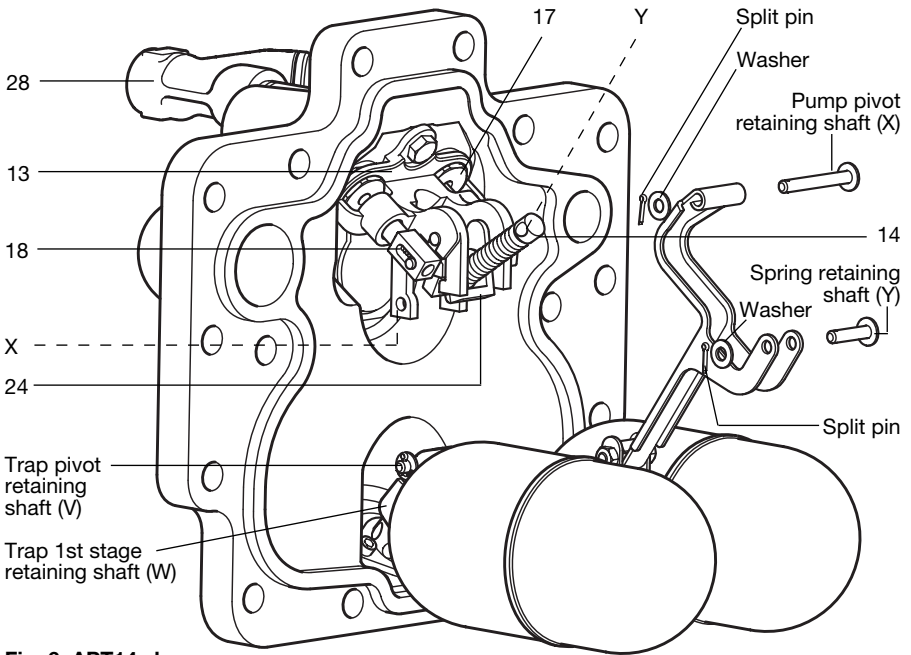
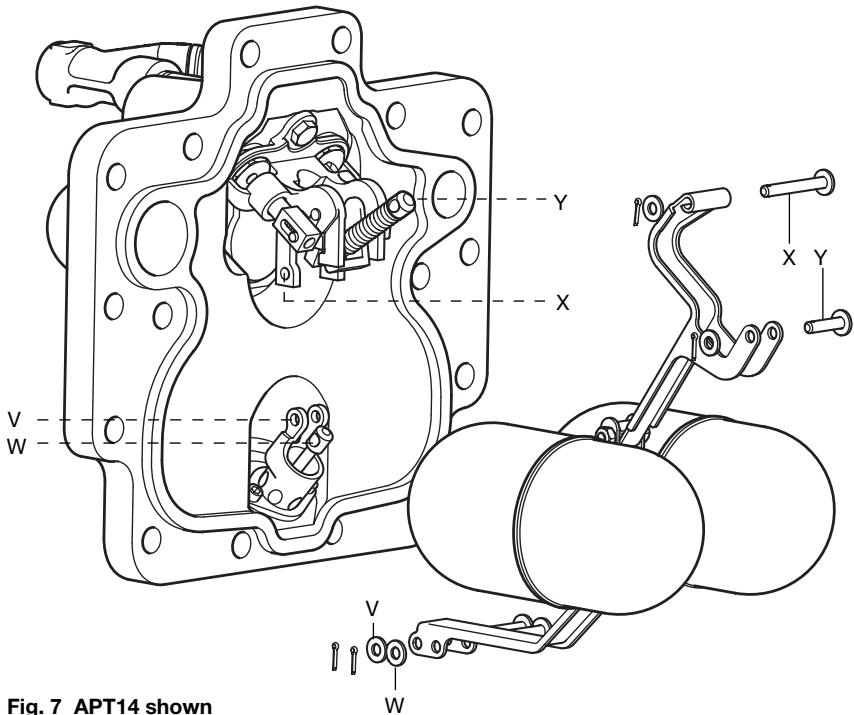

Fig. 6 APT14 shown
Fig. 7 APT14 shown
3. Remove a split pin and washer from one side of the spring retaining shaft (Y) (See Figure 6).
4. Remove a split pin and washer from one side of pump pivot retaining shaft (X).
5. Carefully slide the shafts out from their respective positions observing the orientation of the spring and actuator arm (item 14, 24) within the pump bracket (item 13) as these will need to be refitted later.
6. Remove a split pin and washer from one side of the trap 1st stage valve retaining shaft (W).
7. Remove a split pin and washer from one side of the trap pivot retaining shaft (V).
10. It is easier to fit the replacement shafts in the following sequence:- (See Figure 7).
- Y. Spring retainer** shaft length 30 mm for both APT14, APT14HC and APT14SHCleaving the spring retaining shaft until after the spring and actuator arm have been correctly aligned and located within the slot of the pump bracket (item 13).
14. Carefully reconnect the motive steam supply and the exhaust lines to the connections marked (S) and (E). The APT14, APT14HC or APT14SHC is now ready to recommission.
15. Make sure that the Spirax Sarco motive supply strainer (with 100 mesh screen) is reinstated to the motive supply connection (item 28, Figure 6).